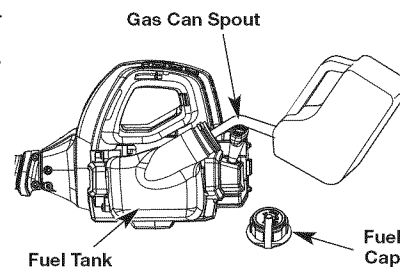

Fig. 9
1. Remove the fuel cap (Fig. 9).
2. Place the gas container's spout into the fill hole on the fuel tank (Fig. 9) and fill the tank.